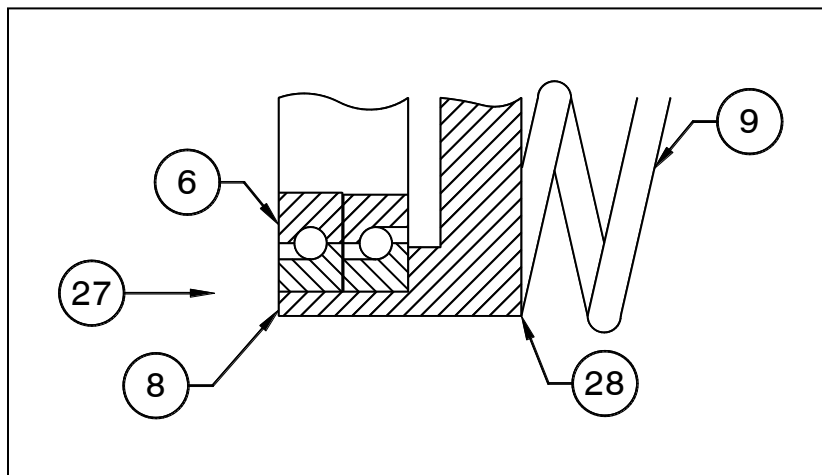

Figure 4.7e
- c. Cover the keyway with tape to prevent it from cutting the seals, then pull the pinion (22) up through the worm housing (26) with an eyebolt and cable, and then support the pinion from below with blocking.
- d. Install the bearing (24) over the shaft. Tap the bearing (24) in as necessary to seat, using a tubular driver. Then install the retaining ring (25).
- e. Place the spacer ring (13) in position over the shaft. Then, mount the worm gear (16) on the pinion shaft and install the key (14). Using a hammer and block of wood, carefully and evenly drive the worm gear down until the pinion retaining ring groove is exposed. Install the retaining ring (15).
- f. Press the bearings (6) on to the worm shaft (5). Make sure they are both facing the same direction as shown in Figure 4.7e. This is essential in order to transfer the thrust toward the spring. Improper assembly will cause bearing failure.
- j. Coat both ends of the worm housing with Ultra-Blue RTV-Silicone. Then place the "Centering Device" and the spring (9) (Figure 4.7e) over the stop rod and install the spring seat (10) and end cap (11). Secure the capscrews.